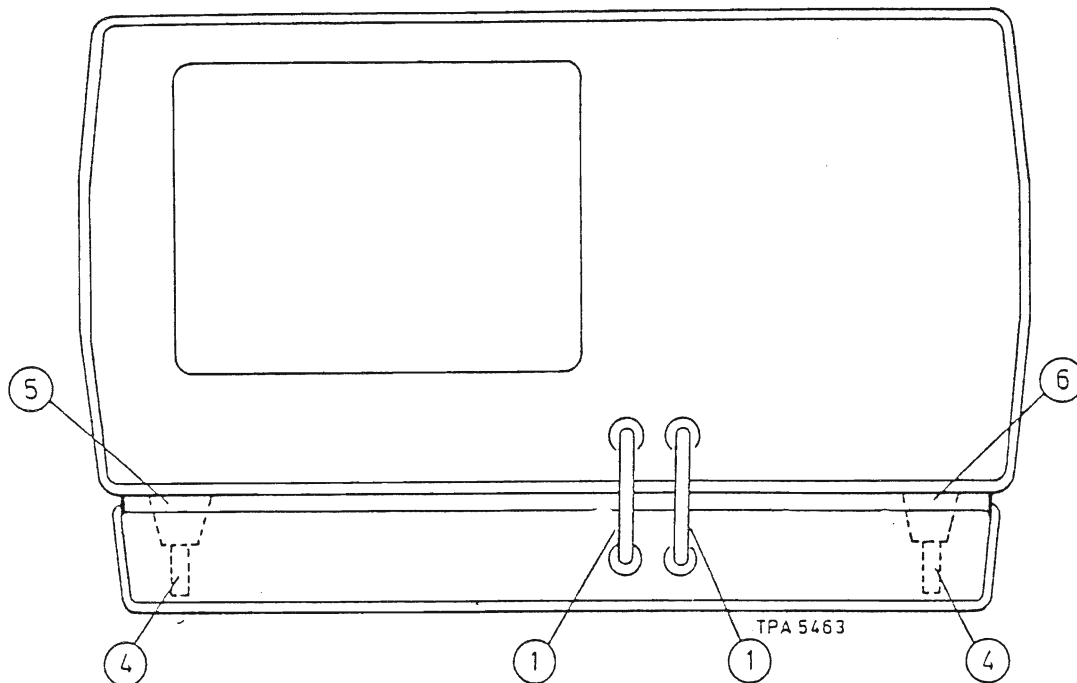

Fig. 1 Front view showing electrical and mechanical connections
5. The 2958 consists of a 2955 which is both electrically and mechanically connected to a Cellular Radio Adapter. These connections are shown in Figs. 1 and 2. To convert a 2955 to a 2958 use the following procedure:-